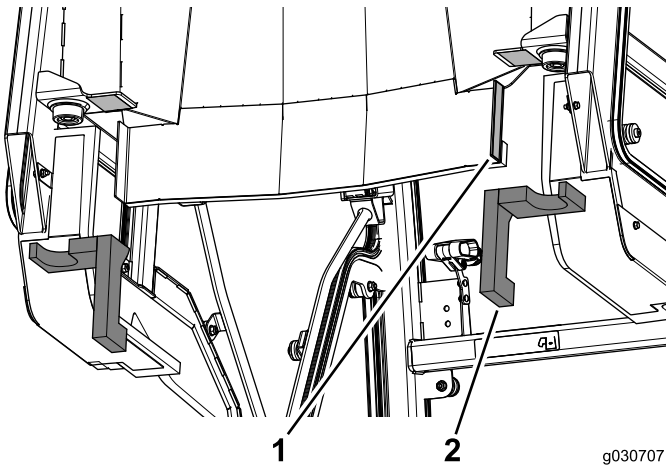

Figure 14
1. Remove the paper backing from the double-faced tape at the back of the cab unit (Figure 14).
2. Apply the side back foam seals to the cab unit (Figure 14).